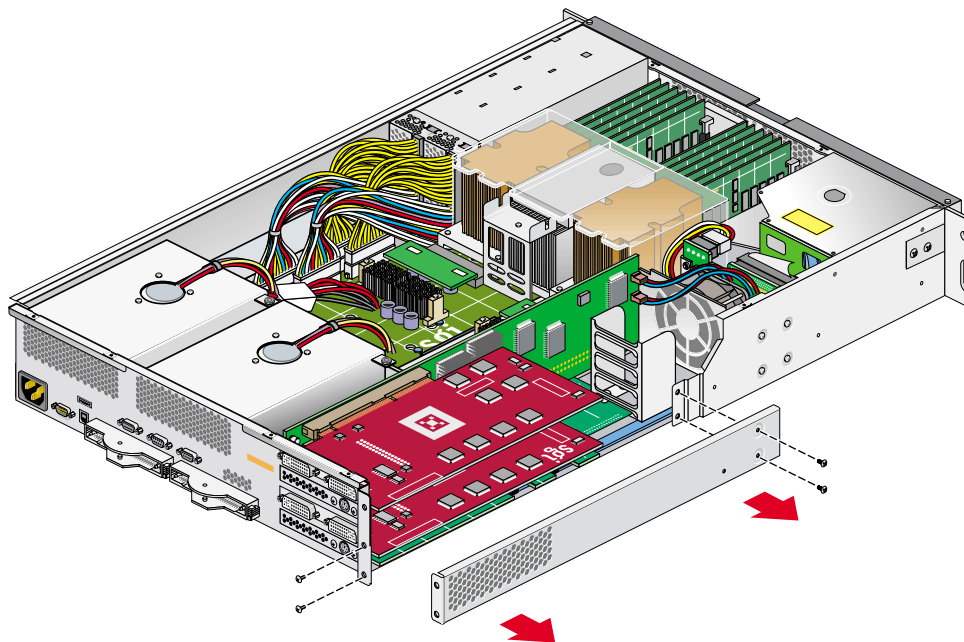

Figure 3-18 Removing the XG2N Graphics Card Bracket
9. Remove the lower PCI/PCI-X support bracket by unscrewing the four Phillips screws, as shown in Figure 3-18.